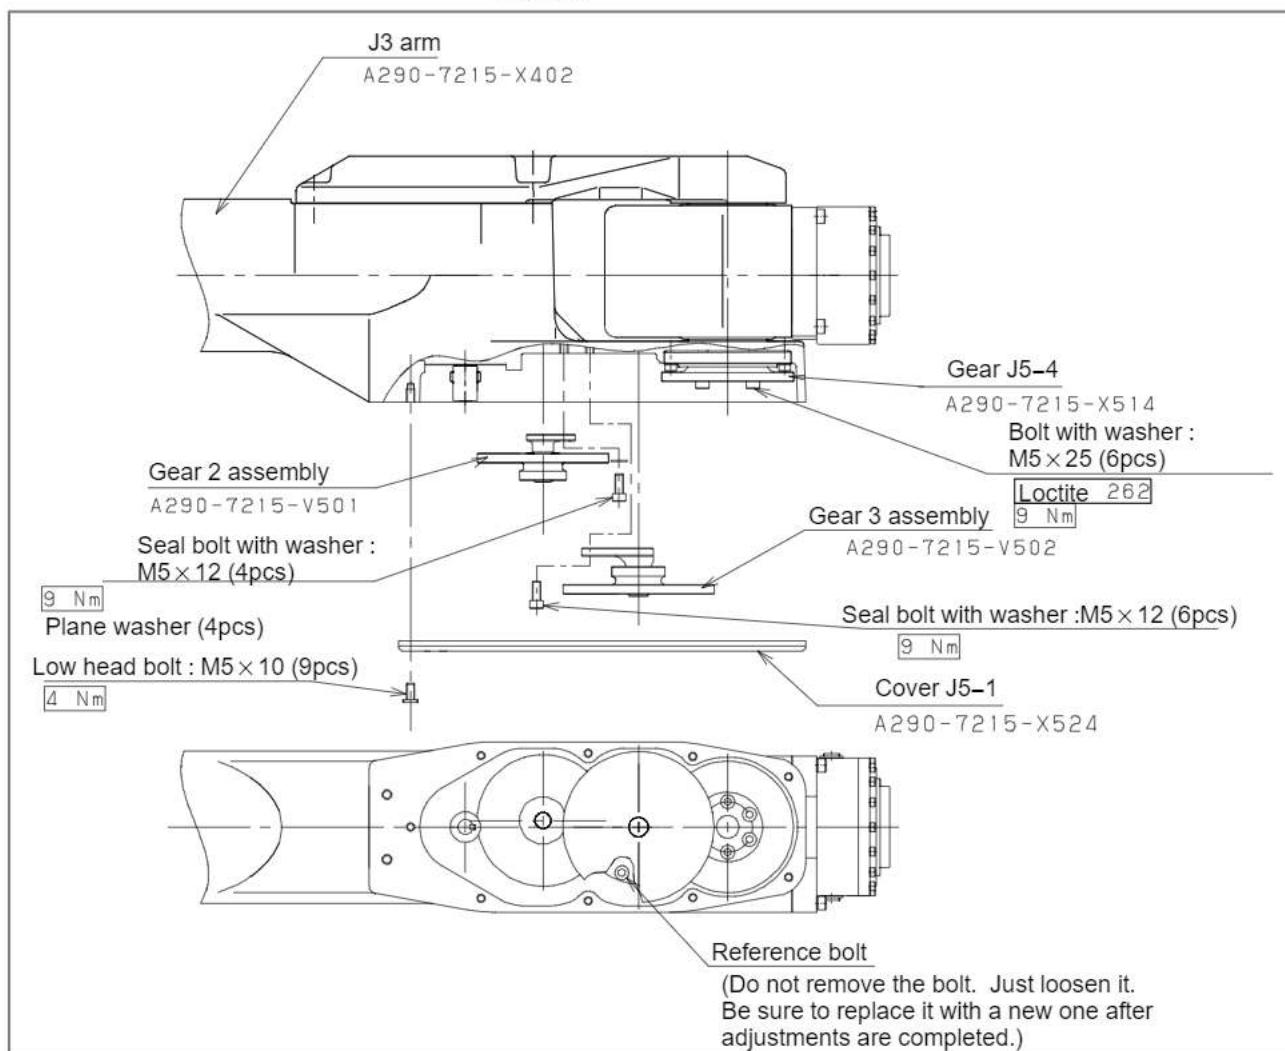

Fig 5.6 J5-axis gear backlash adjustments
If the backlash in the J5-axis is harder than the allowable value (output axis angle of 4.5 minutes) listed in Table 4.2 (b), make backlash adjustments, using this procedure. (See Fig. 5.6.)
- 2 Remove the five M5 × 12 seal bolts with a washer. These bolts work not only for mounting but also sealing the gear unit grease bath. Once you have removed them, replace them with new ones. In reference to the bolt (Do not remove this bolt; just loosen it. However, loosening it impairs its ability to seal. Once adjustments are completed, after the other seal bolts are tightened, replace this bolt with a new one. Otherwise, grease may leak.) shown in Fig. 5.6, push the gear 3 assembly against the output gear (A290-7215-X514), and fix the gear 3 assembly temporarily. After you have fixed the gear 3 assembly temporarily, rotate the J6 housing (output gear) in both positive and negative directions, and check whether their rotation is abnormally heavy and any portion has a serious backlash. Repeat the above procedure until any backlash becomes lower than the maximum allowable value and the engagement and rotation torque becomes moderate.
- 2 Rotate the gear 2 assembly, and check the operation of the J5-axis by operating it within its stroke (-140° to +140°). Repeat step 1 for reducing the backlash until the gears will not interfere with each other. Fix the gear 2 assembly temporarily in the same manner as stated in (1). Once you have completed adjustments, mount the assembly with new M5 × 12 seal bolts with a washer.
- 3 Make sure that the total backlash in the J5-axis unit is lower than the maximum allowable value (output axis angle of 4.5 minutes) listed in Table 4.2 (b). If the requirement is not satisfied, go back to 1 of procedure (1).